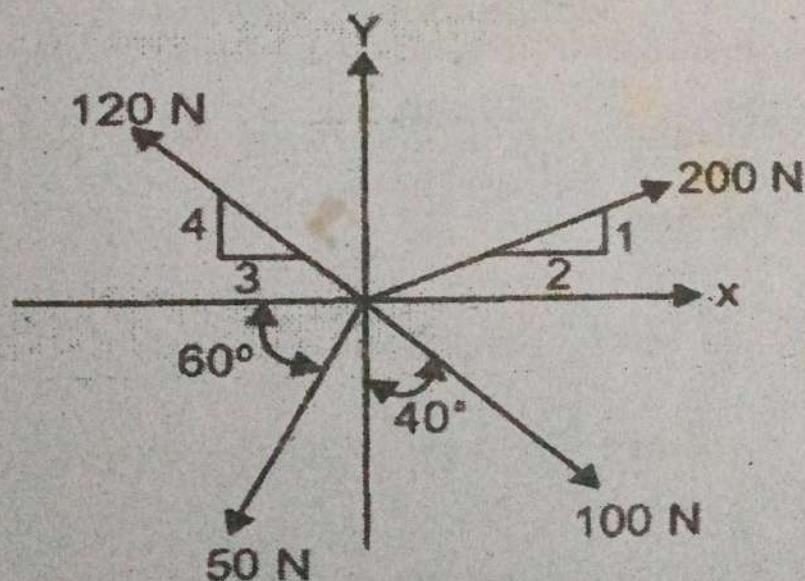

Fig. 2
- 3. A system of four forces acting on a body is as shown in Fig. 2. Determine the resultant.